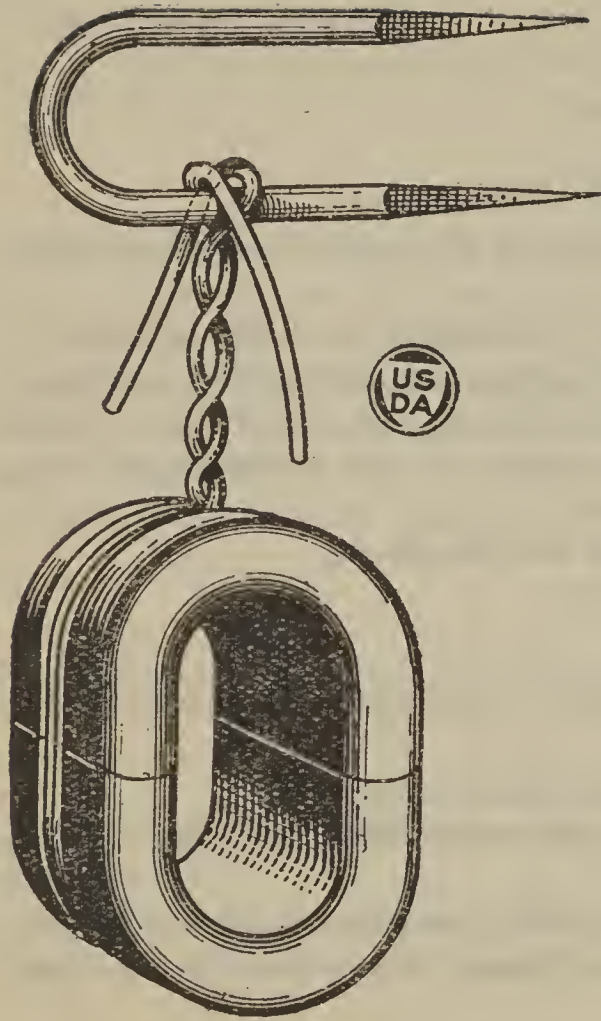

FIG. 9.—Method of attaching split tree insulator.
3. All replacements of split tree insulators should be attached to the tree, the pull-away tie method, as shown in Figure 9 in this manual, being used. In fastening this tie a 3-inch staple should be used for thin-barked trees and a 3½ or 4 inch staple for thick-barked trees. No. 12 wire only should be used in making this tie.
6. In replacing split tree insulators, use only the D-1 oval brown type. (See fig. 9.)